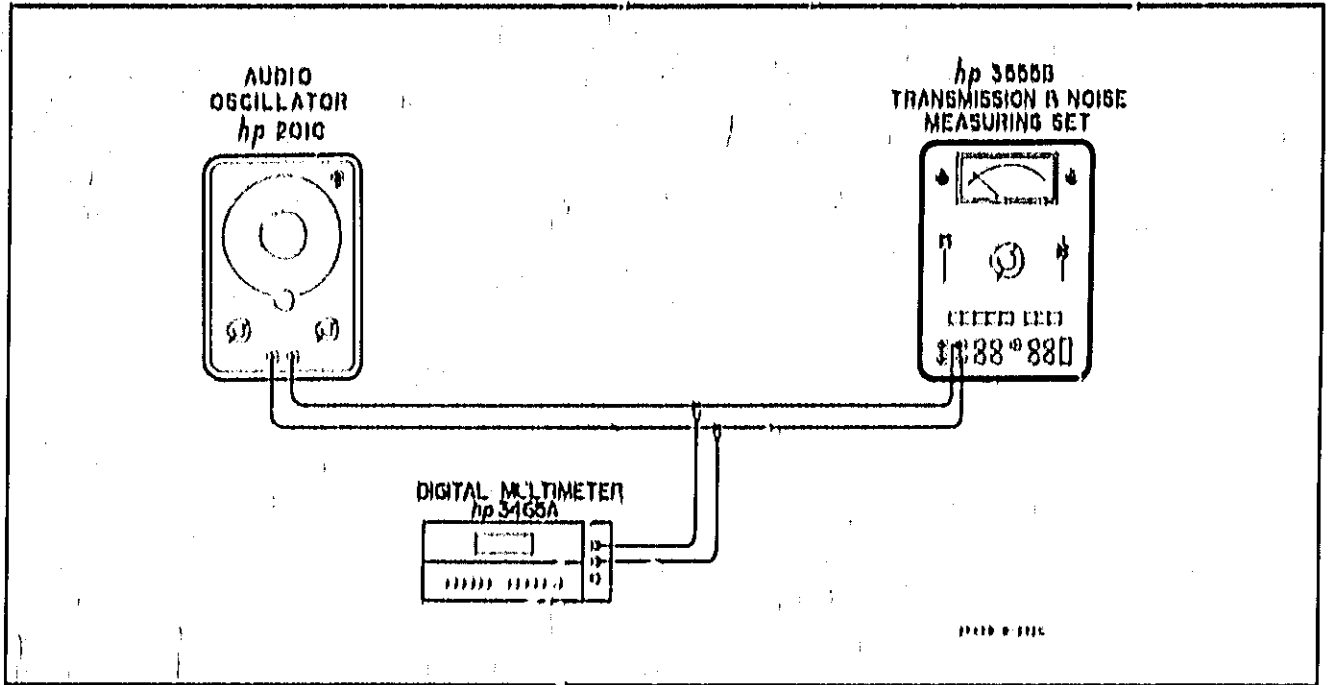

Figure 5-3. +20dBm and +30dBm Level Accuracy Check
- k. To check the top two ranges, connect the equipment as shown in Figure 5-3 and set the 3555B controls as follows: